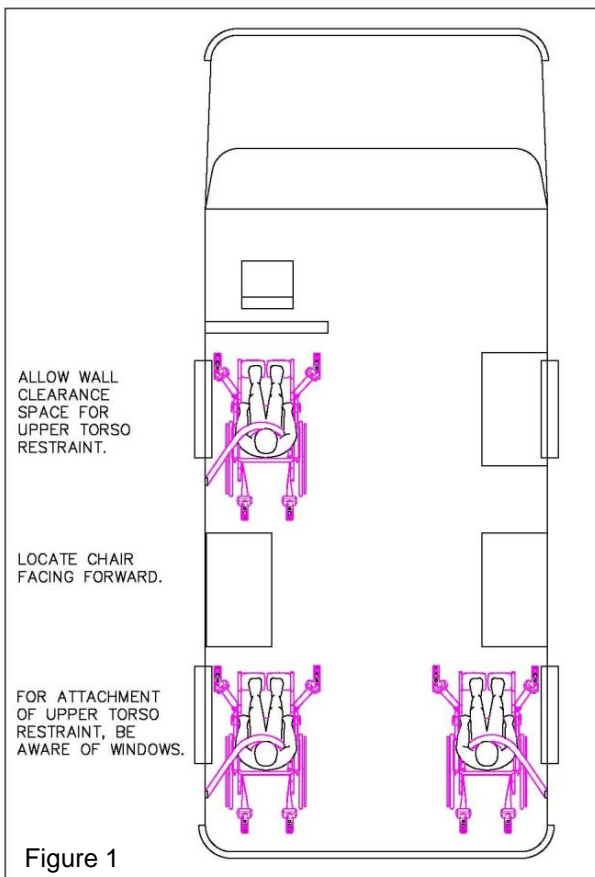

Figure 1
- Check for wall clearance, allowing space for installation of floor anchorages and shoulder belt (Figure 1)